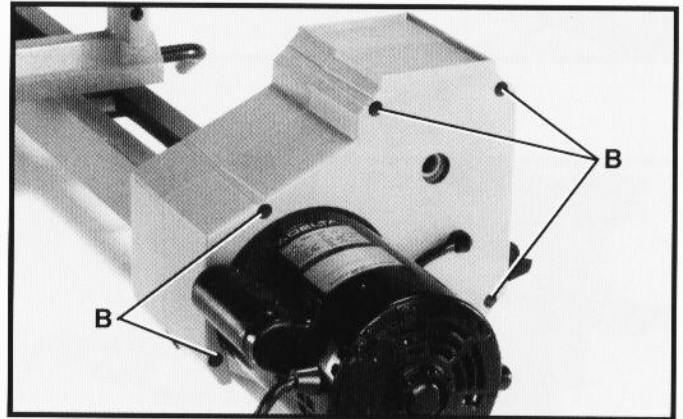

Fig. 94
3. Remove the five screws located in holes (B) Fig. 94, on left side of headstock.